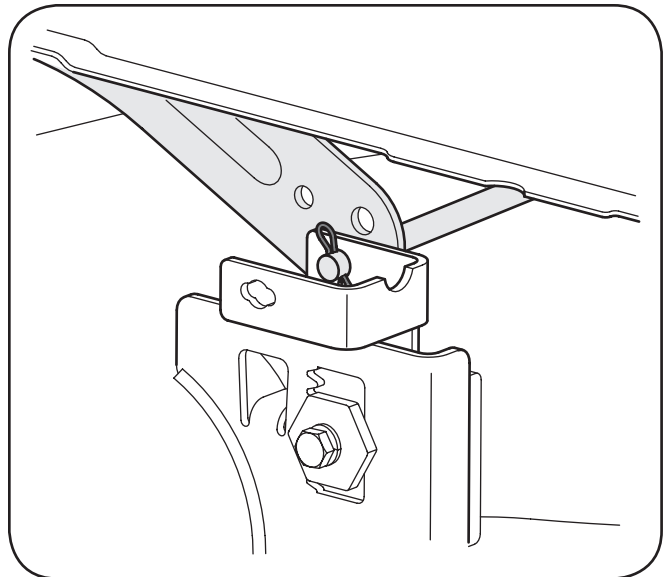

Figure 7-2
5. Looking at the cutting deck from the left side of the tractor, locate the bow-tie pin that secures the deck support rod on the rear left side of the deck. See Figure 7-2. Remove the bow-tie pin that secures the deck support rod, and carefully remove the deck support from the deck lift arm.